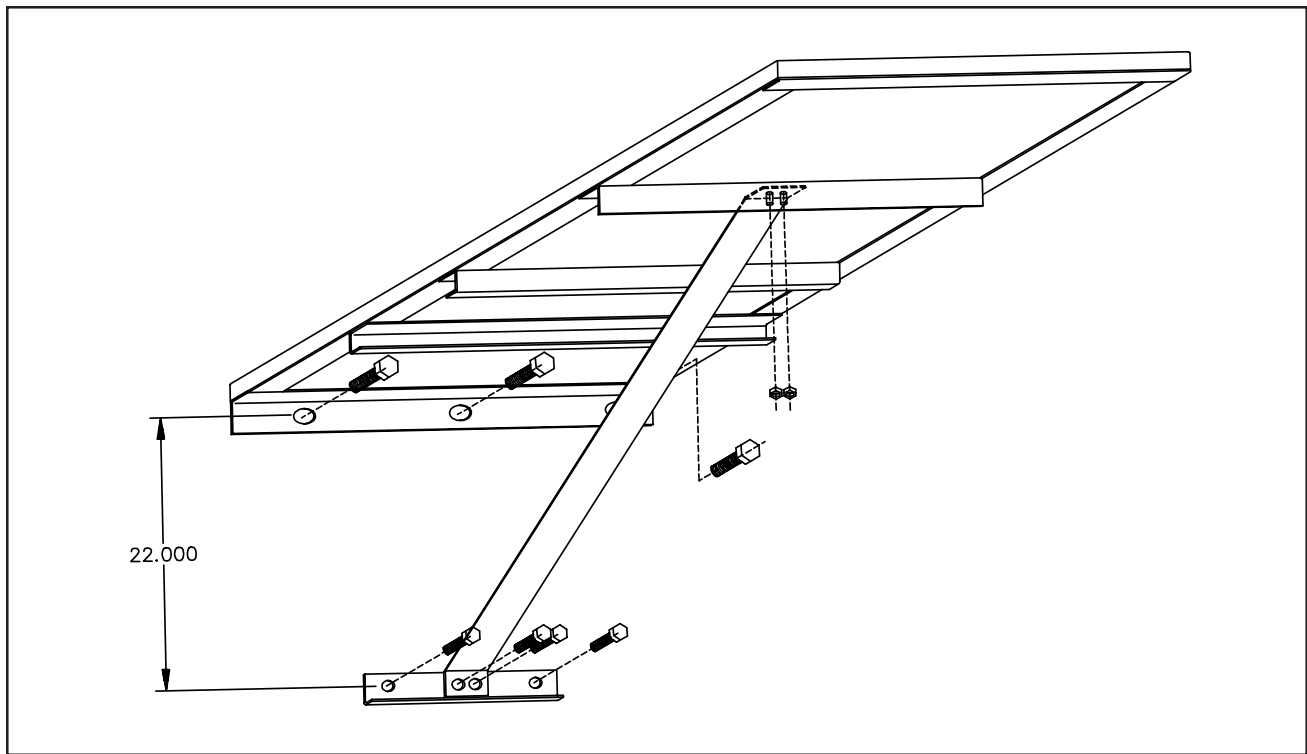

Figure 4. Installation of Table to the Wall
Mount the table to the wall as follows. Refer to Figure 4.
2. Mount the crossbrace to wall with screws or bolts through the lower, outer mounting holes (Figure 4).